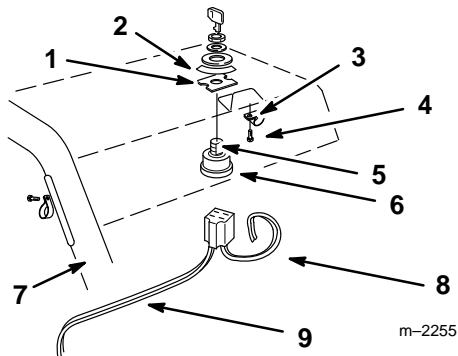

Figure 13
16. Install the ignition switch (Fig. 13). Ensure that the flat side on the switch and switch adaptor face the front of the machine.
18. Secure the decal on the control panel around the hole for the switch (Fig. 13).
19. Route the orange and red wires through the cable clips on the right hand handle (Fig. 13).